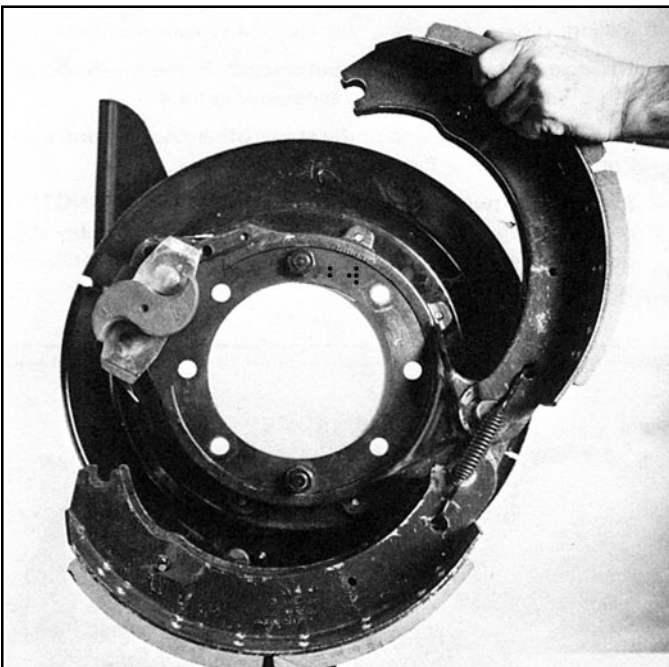

FIGURE 5 - REMOVING SHOES
3. Remove shoes. Lift one of the shoes off anchor pin and lower both shoes to the floor (see Figure 5).